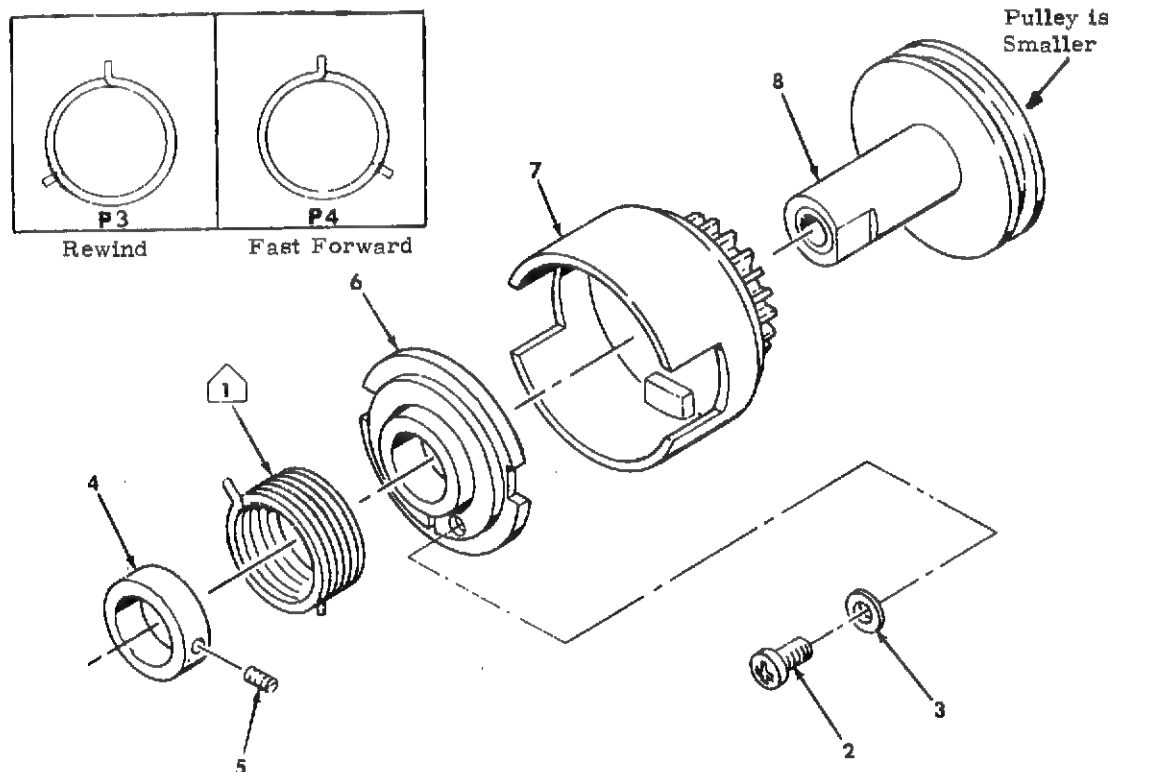

Figure 3-37. REWIND and FAST FORWARD CLUTCH REASSEMBLY
1. Lubricate the outside diameter of the shaft of the Pulley Assembly (8) and assemble the Gear (7) and the Drum (6) to the shaft as shown (Figure 3-37)
2. Seat the notches of the Drum (6) over the raised lugs inside the Cup Gear (7).
3. Assemble the Arbor (4) on the shaft of the Pulley (8) and tighten the Setscrew (5) in the notch in the end of the shaft allowing for end play of .005" to .010".
4. Apply three or four small drops of Teresso Instrument Oil (39479-P8) on the Arbor (4) and push the Spring (1) over the Arbor until it is seated on the Drum (6) with its tail trapped in the slot in the Drum.
5. Assemble Screw (2) and Washer (3) to the Drum (6) trapping the tail of the Spring (1) permanently in the slot of the Drum (6).